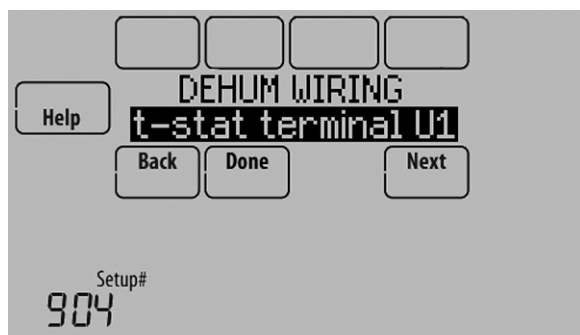

Fig. 191.
4. Select the terminals wired to the A/C with Low Speed Fan. See Fig. 191.